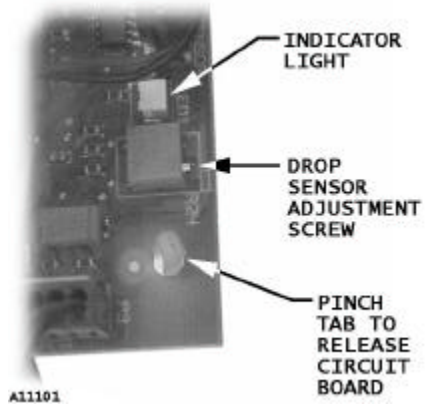

Figure 10b. Drop Sensor Adjustment Screw
2. Find the drop sensor adjustment screw and the drop sensor indicator light on the bottom right corner of the control board. See **Figure 10b**. Set the drop sensor to factory setting as follows: